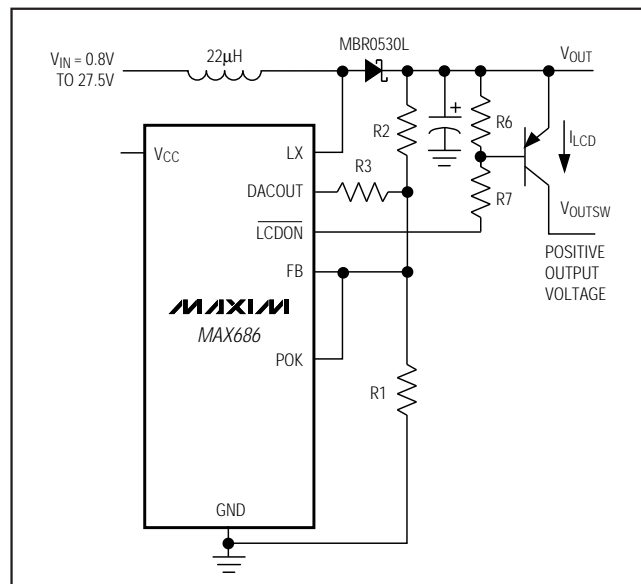

Figure 7. Using the POK for Output Voltage Monitoring
- An output-sensing cutoff for positive outputs. Connect POK to the feedback voltage divider to sense the output voltage. The output switches on only when it reaches 90% of the set voltage (Figure 7).
For positive output voltage sensing, connect POK directly to FB to monitor the output voltage (Figure 7). The POK threshold is 10% less than the set voltage at FB. Therefore, when the output voltage drops 10% below its set value, the POK circuit turns off the external PNP transistor, disconnecting the load.